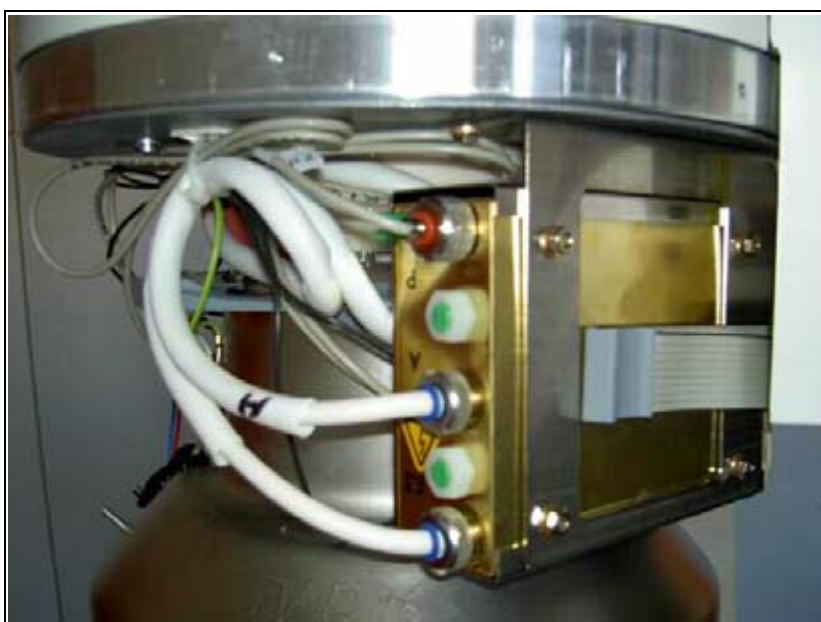

Fig. 7: I. I. mini-voltage supply
2. Replace the I.I. mini-voltage supply (Fig. 7 / p. 34).